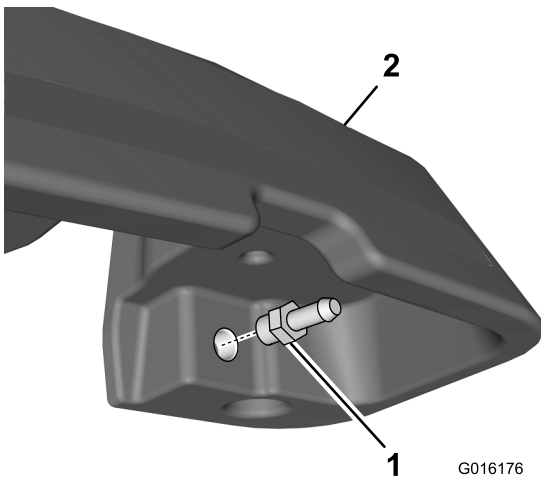

Figure 6 G016176
21. Install the straight hydraulic fitting into the opening on the underside of the leak detector tank (Figure 6).